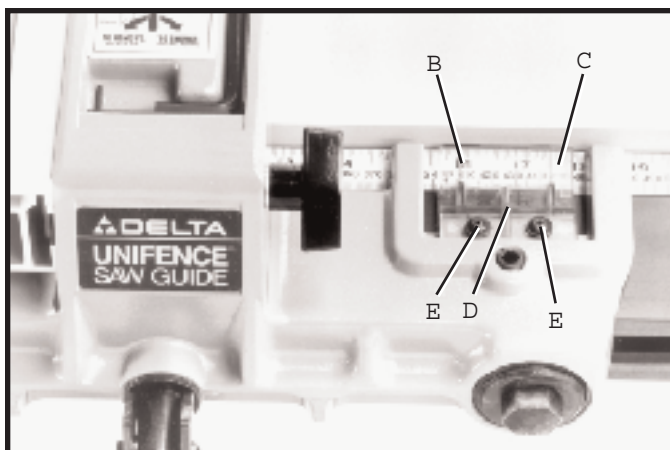

Fig. 53
5. The distance the fence is positioned away from the blade is indicated by the two witness lines (B) and (C) Fig. 53, located on the cursor (D). The witness lines (B) and (C) easily indicate the distance the fence is positioned away from the saw blade. Witness line (B) indicates the distance the fence is away from the blade when the fence is in the horizontal position, and witness line (C) indicates the distance the fence is away from the blade when the fence is in the vertical position. If it is necessary to adjust cursor (D), make a test cut with the fence in either the vertical or horizontal position, measure the distance of the finished cut and move the cursor (D) by loosening the two screws (E) Fig. 53. After adjustment is completed tighten the two screws (E).